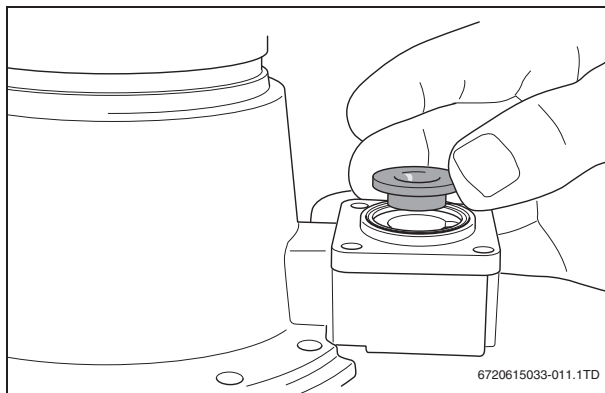

Fig. 10 Changing the orifice
- Change the 4.70 (0.185") orifice for the 5.00 (0.197"), (→ table 2), (→ fig. 10).